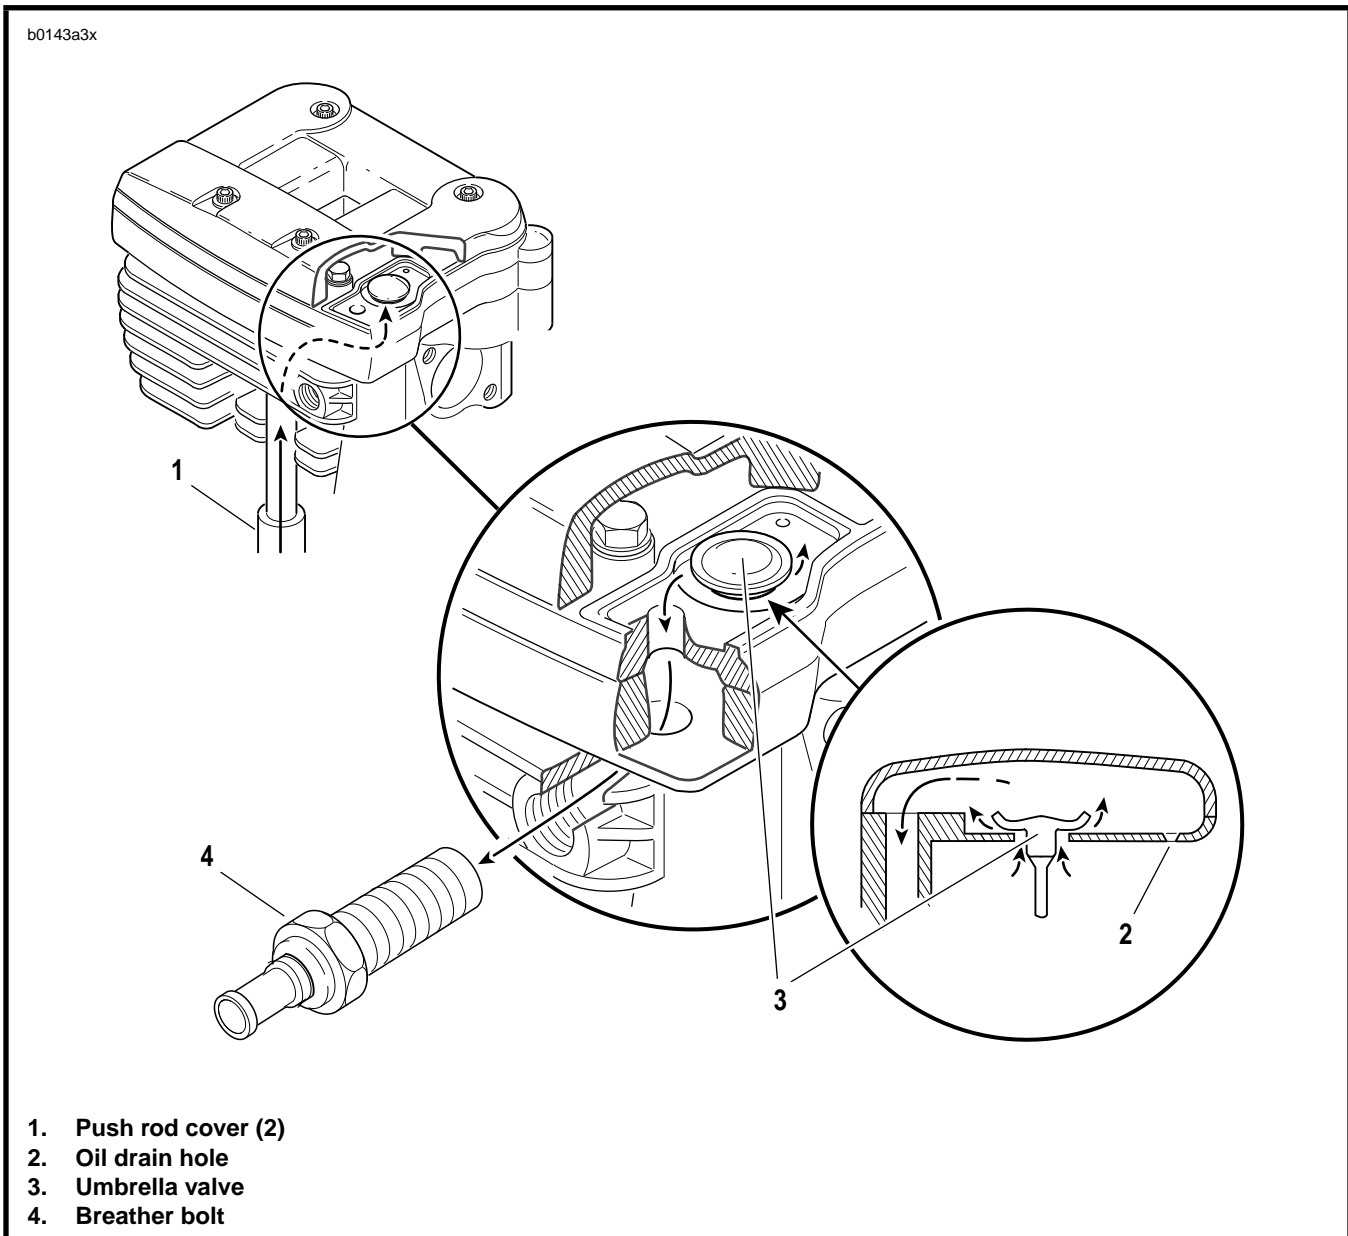

Figure 3-43. Crankcase Breathing System – Typical Cylinder
See Figure 3-43. On piston downstroke, a mixture of crankcase air and oil mist is vented up the push rod covers (1) through an umbrella valve (3) in each middle rocker box section. The oil mist separates from the crankcase air, collects and passes through a small drain hole (2) where it eventually returns to the crankcase. The crankcase air is routed through a passage in each cylinder head. The crankcase air then travels through each air cleaner breather bolt (4) into a hose leading into the air cleaner.